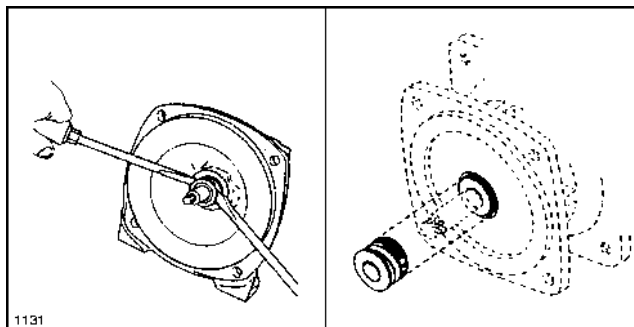

FIG. 11
1. Lightly lubricate shaft with mineral oil or glycerin for easier removal of seal. Using two screwdrivers positioned opposite each other, pry the rotary portion of the seal from the shaft. See FIG. 11.
4. To install the rotary portion of the mechanical seal, place it over the shaft with the carbon side facing in, and press until it bottoms out against the stationary portion. Install rubber spacer. See FIG. 11.